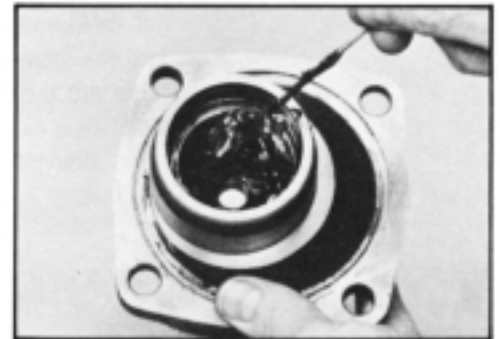

Figure 144
38. Apply a generous amount of clean wheel bearing grease (do not substitute another type of grease) to the bearing in side cover (43). SEE FIGURE 144.